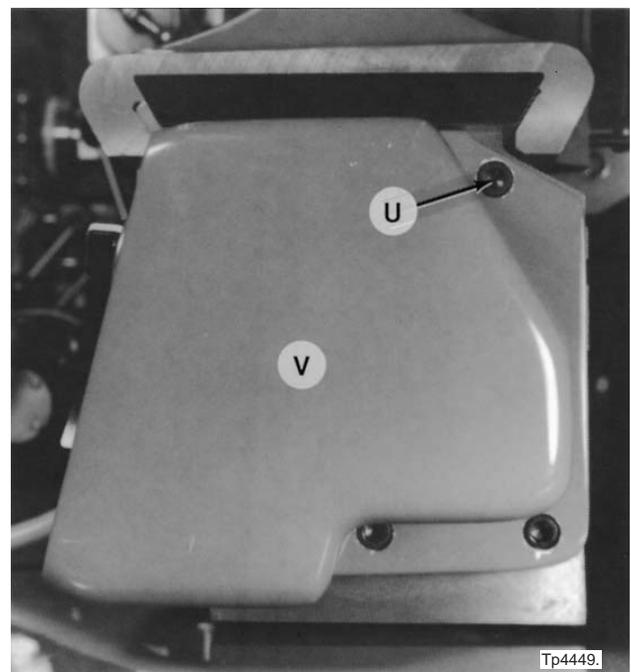

Figure 3.43 - Power Feed Control Box (End View)
9. Remove three bolts "U", Figure 3.43, and pull power feed control box "V" away from the end of the bed.
13. Position control box "V", Figure 3.43, against the end of the bed and install three bolts "U".